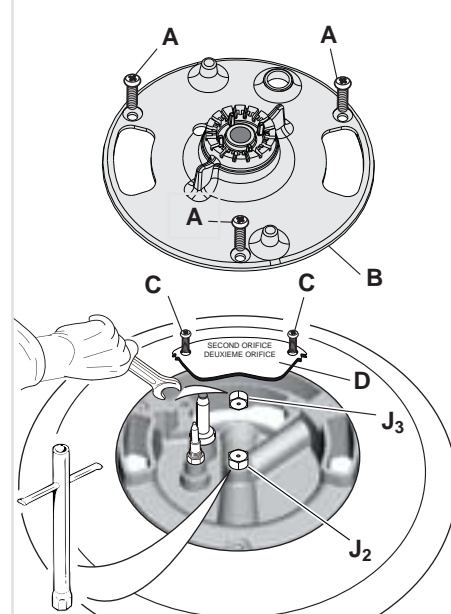

Fig. 2.12
(\*) inner crown ("J2" in figure 2.12)
(#) outer crown ("J3" in figure 2.12)
- Dual burner only (fig. 2.12): Unscrew the no.3 fixing screws "A" and remove the inner crown flame spreader "B"; then unscrew the no.2 fixing screws "C" and remove the cover plate "D".
- Dual burner only (fig. 2.12): Refit the cover plate "D" and screw the no.2 fixing screws "C"; then refit the inner crown flame spreader "B" and screw the no.3 fixing screws "A".